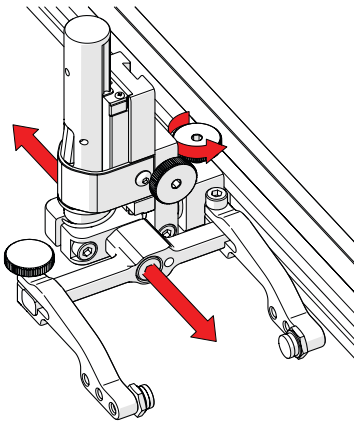

Fig. 52 - Adjust on frame bar
1. The probe holder adjustment knob allows the probe holder to be attached to a frame bar, as well as horizontal positioning on a frame bar (Fig. 52).